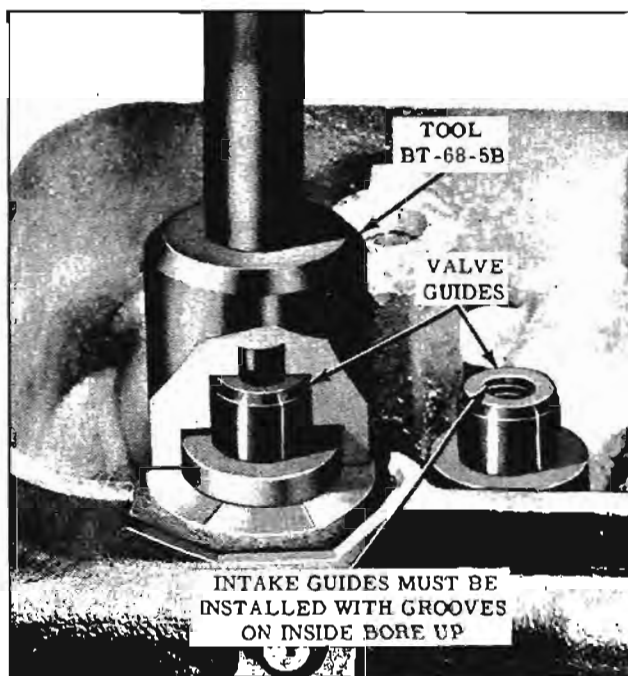

Fig. 8-121 Installing Valve Guides
3. Place guide Installer Tool BT-68-5B over new guide and drive until tool makes contact with cylinder head. This will automatically position guide. (Fig. 8-121)